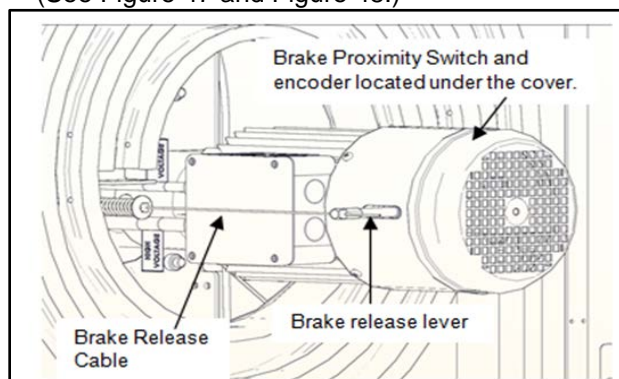
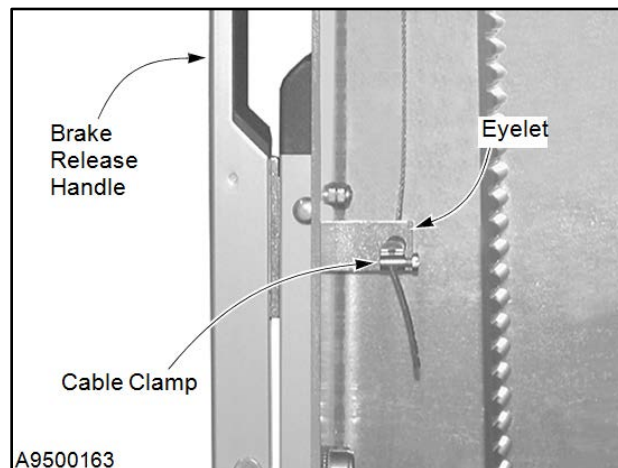

Figure 47
Figure 48
3. Disconnect the old brake release cable from the electric brake mechanism by removing the cable clamps, washers, and spring. Save all hardware. (See Figure 47 and Figure 48.)